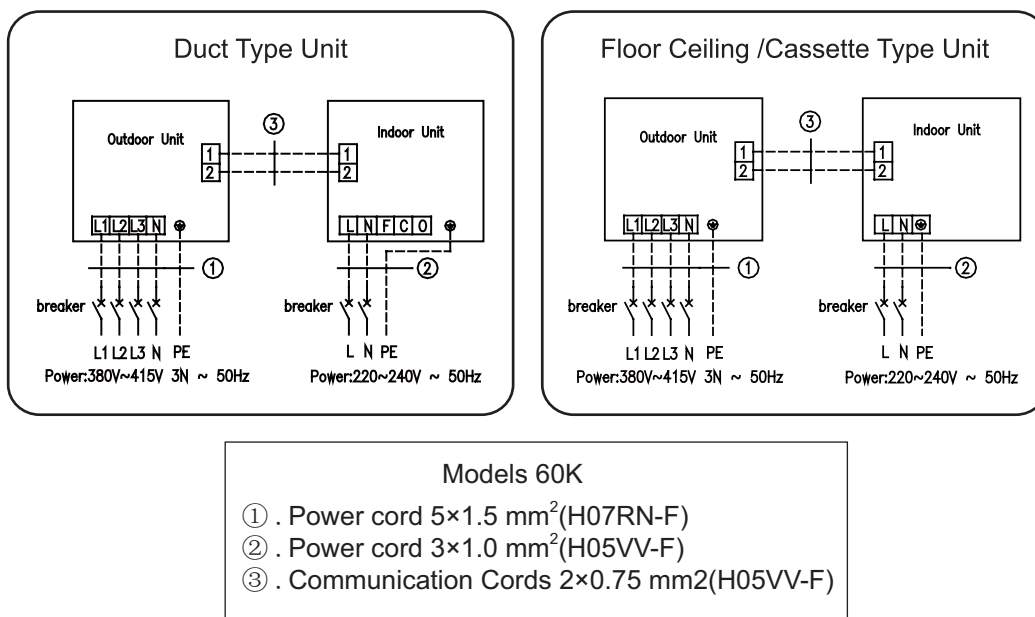

Figure 3-2-9
| ⑦                     | . Connect the indoor unit connection cord properly based on the corresponding marks as shown in Figure 3-2-9.   |